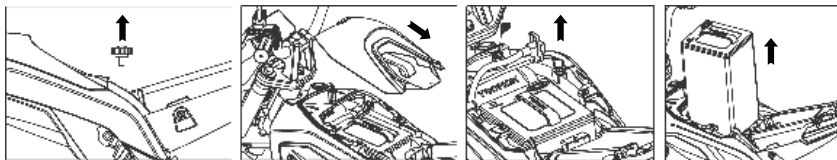

Figure 3
② Screw off the bolt –pull backwards the top cover - pull out the battery cable plug - lift the battery. (Figure 3)